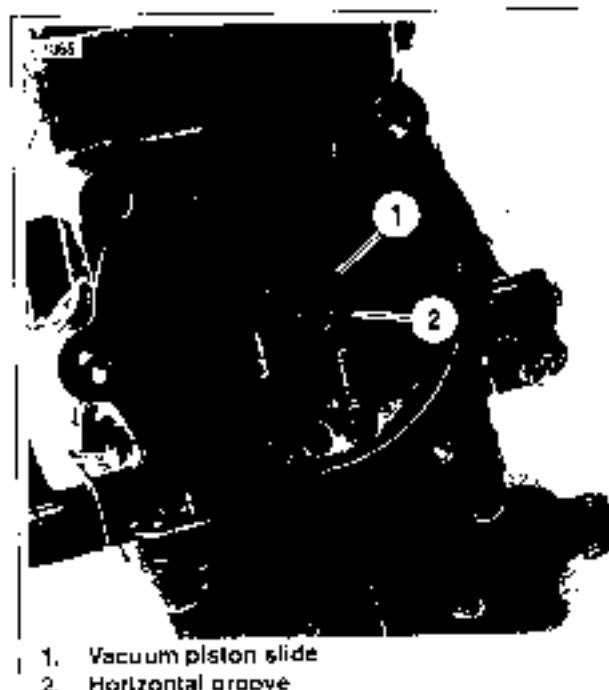

Figure 4-7. Vacuum Piston At Rest
2. See Figure 4-7. Observe position of piston slide at its lowest downward point. Lower edge of slide should rest at horizontal groove (?) at lower end of slide track. If problems are observed, see 4.2 FUEL SYSTEM TROUBLESHOOTING and Table 4-9.